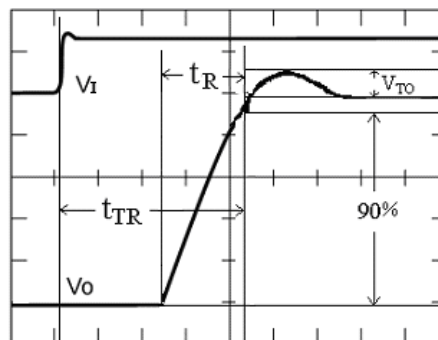

Figure A.7. Schematic diagram of start-up overshoot and start-up delay
- The time from when the input voltage begins to step up from the oscilloscope waveform to when the output voltage reaches 90% of its stable value is the start-up delay time t_{TR} , as shown in Figure A.7.